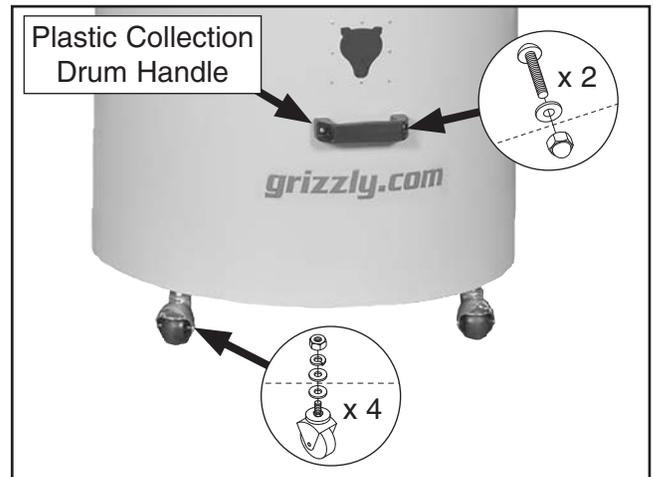

Figure 19. Casters and handle attached to lower collection drum.
23. Attach casters to bottom of lower collection drum, as shown in **Figure 19**, with (4) $\frac{3}{8}$ "-16 hex nuts, (8) $\frac{3}{8}$ " flat washers, and (4) $\frac{3}{8}$ " lock washers included in box with casters.
24. Attach (1) plastic collection drum handle to lower collection drum using (2) $\frac{5}{16}$ "-18 x $\frac{3}{4}$ " Phillips head screws, $\frac{5}{16}$ " fender washers, and $\frac{5}{16}$ "-18 acorn nuts (see **Figure 19**).